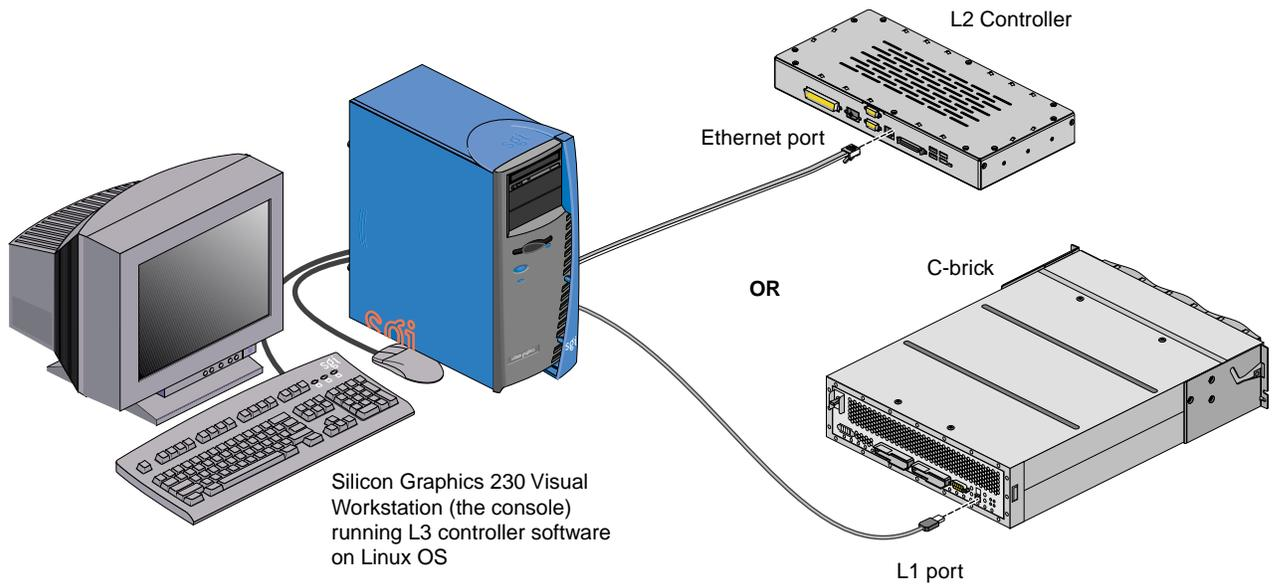

Figure 2-28 L3 Controller Display
- If you connect a console running the L3 controller software (with Linux operating system software) to the Ethernet connector on your L2 controller (or to the L1 port [USB] connector on a C-brick if no L2 controller is available; see Figure 2-28), you can view the status and error messages generated by both the L1 controllers and the L2 controller. You can also input L1 and L2 commands to generate specified status and error messages. For explanations of these commands, see Appendix B, "System Controller Commands."